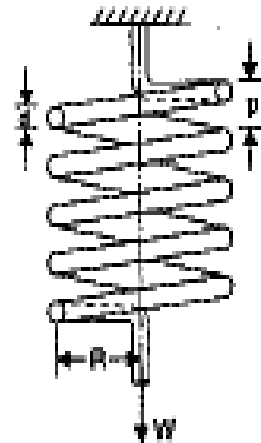

Fig. 16.13
**Close-coiled helical springs.** Close-coiled helical springs are the springs in which helix angle is very small or in other words the pitch between two adjacent turns is small. A close-coiled helical spring carrying an axial load is shown in Fig. 16.13. As the helix angle in case of close-coiled helical springs are small, hence the bending effect on the spring is ignored and we assume that the coils of a close-coiled helical springs are to stand purely torsional stresses.
**Expression for max. shear stress induced in wire.** Fig. 16.13 shows a close-coiled helical spring subjected to an axial load.